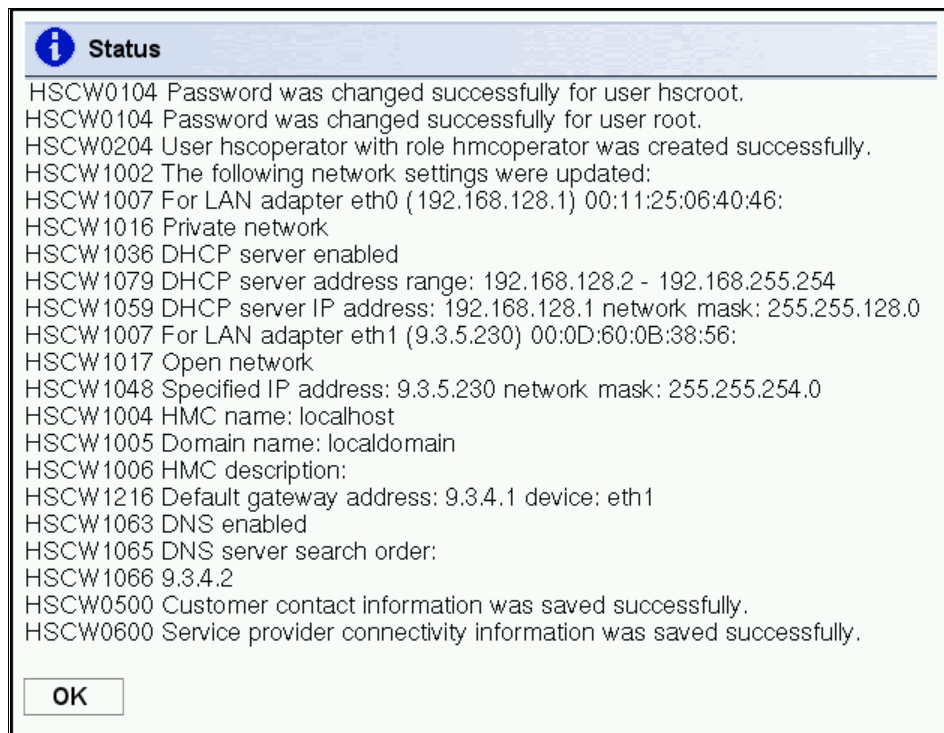

Figure 3-55 The launch Guided Setup Wizard - Status Log
47. You can review the log by clicking **View Log**. This log is useful if for any reason you have task that have a failed status. Figure 3-55 shows an example of the log file output.